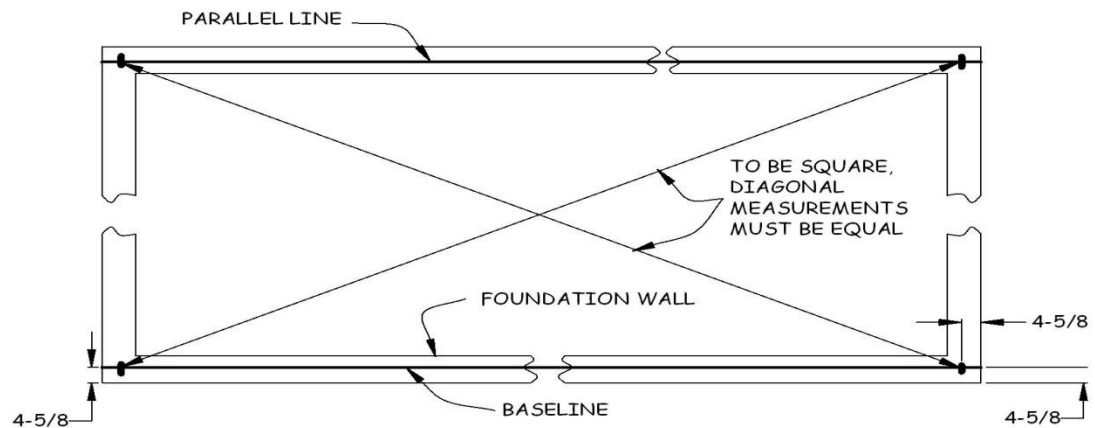

Figure 1-2. Squaring Foundation Lines.
3. Now that the sill plate lines are square, check to make sure the short wall corner marks are the same distance (preferably $4\frac{5}{8}"$; call it Distance A) from the outside edges of the short foundation walls. If necessary, adjust the floor box (see Figure 1-2) left or right along the long walls until Distance A on both short walls differs by less than $\frac{1}{8}"$.
3. Now that the sill plate lines are square, check to make sure the short wall corner marks are the same distance (preferably $4\frac{5}{8}"$; call it Distance A) from the outside edges of the foundation walls. If necessary, adjust the floor box (see Figure 1-2) left or right along the long walls until Distance A on both short walls differs by less than $\frac{1}{8}"$.